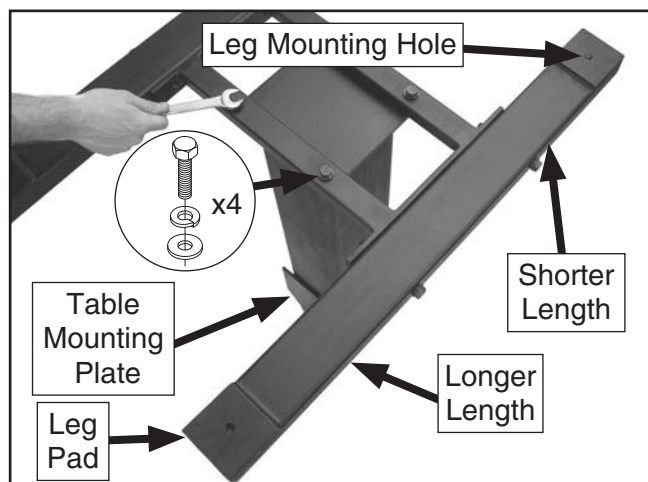

Figure 9. Installing cross brace onto stand.
- Turn the stand upside down and place the cross brace on the stand bottom, as shown in **Figure 9**.
- Align the mounting holes and secure with four M10-1.5 x 40 hex bolts, 10mm lock washers, and 10mm flat washers, as shown in **Figure 9**.
- Inspect the leg mounting holes (see **Figure 9**) and remove any extra paint or metal debris from the threads.